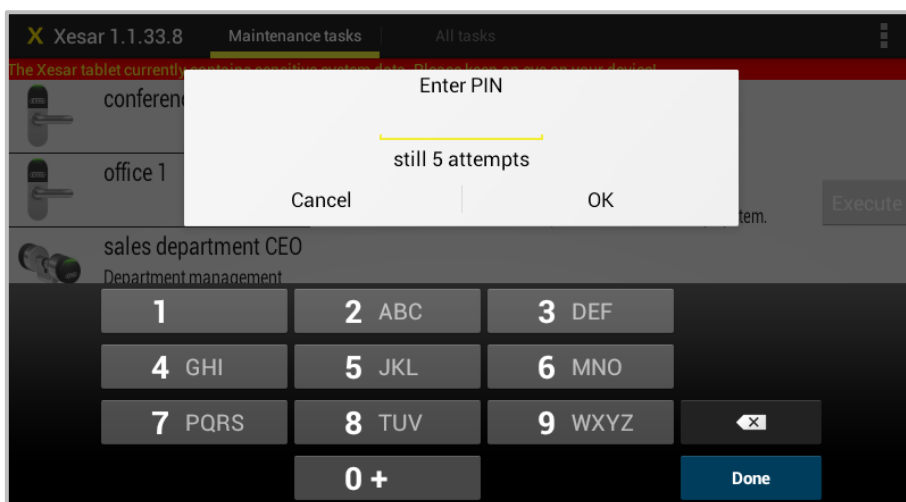

Figure 83: Xesar tablet — entering the initialisation PIN
- You are prompted to enter your initialisation PIN. (Figure 83: Xesar tablet — entering the initialisation PIN) Enter the ***4-digit code***.